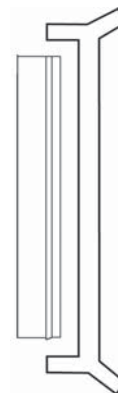

figure 17
1. Place the impeller and impeller drive assembly (items 3,3A, 4,4A, 4B, 4C) on a table with the suction side facing up.
2. Position the replacement impeller thrust ring in the bore of the front shroud with the snap fit ridge towards the bottom of the bore (see figure 17). Align the anti-rotation flat on the impeller thrust ring with the flat in the impeller shroud.